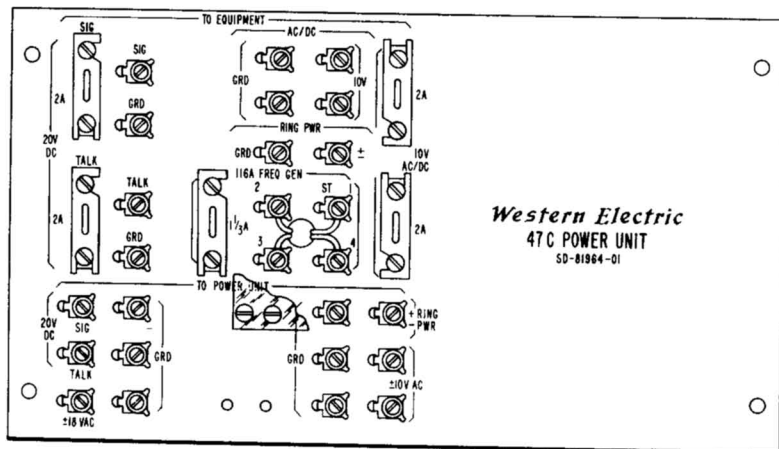

Fig. 3—Wiring Connections for 47C Power Unit
3.01 Charge the battery locally for 16 hours before installation. Install the battery in the 47C power unit and connect to a 19-, 20-, ◆29- or 30-type power unit (KSU Power Supply). See Fig. 3.
**4.04** Connect the pigtail leads from the 116A Frequency Generator to terminals on the front panel (see Fig. 3) as follows: